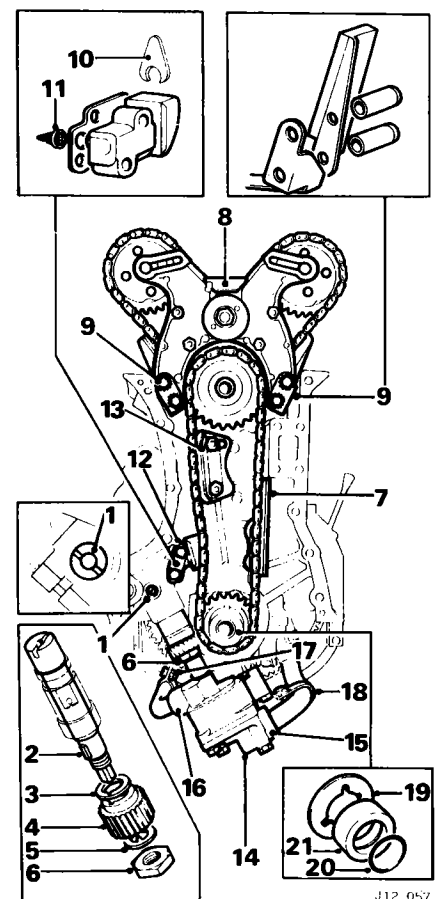

Fig. 72
Place the distributor drive shaft in position with the offset slot as shown (1, Fig. 72).
Slightly withdraw the shaft and fit Woodruff key (2, Fig. 72), thrust washer (3, Fig. 72) and drive gear (4, Fig. 72) on shaft.
Fit the pegged tab washer (5, Fig. 72) and secure it with plain nut (6, Fig. 72).
If no clearance exists, renew drive gear. In emergency, the thrust washer can be reduced. Locate the lower timing chain dampers (7, Fig. 72) and loosely fasten.
Offer the top and bottom timing chain assembly and chain sprockets (8, Fig. 72) into position and secure using four setscrews and locking washers (9, Fig. 72).
Screw the slipper of the chain tensioner into the body casting. Fit the slip gauge or distance card (10, Fig. 72) supplied with the new tensioner to maintain a clearance of 3.17 mm (0.125 in) between slipper and body.
Locate the conical filter (11, Fig. 72) in the cylinder block.
Secure the chain tensioner to the cylinder block using two setscrews (12, Fig. 72) and lock-washers. Fit the shims as required to ensure that the slipper runs central on the chain.
Set the adjustable damper (13, Fig. 72) into light contact with the chain and secure it.
Locate the coupling on the oil pump (14, Fig. 72) and secure it to the front main bearing cap. Fit the lockplates and pipe bracket.
Ensure that the 'O' ring seal is fitted in the oil pump suction (15, Fig. 72) and delivery ports (16, Fig. 72).
Secure the pipe clip (17, Fig. 72).
Fit the oil suction pipe and secure the pipe clips (18, Fig. 72).
Fit the oil thrower (19, Fig. 72) at the timing chain sprocket, if originally fitted.
Check the 'O' ring seal (20, Fig. 72) in the distance piece (21, Fig. 72) and fit on to the crankshaft.